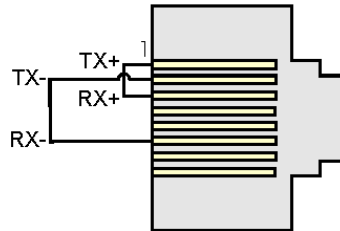

Figure 5-15. RJ-45 Ethernet Loop-back Plug
This test configures the Ethernet port's ability to transmit and receive via the twisted pair. The text transmits frames and compares them against received frames. You need a special loop-back plug (shown in Figure 5-15) to perform the Ethernet loop-back test:
1. Connect an external Ethernet loop-back plug (see *Figure 5-15*) to the Ethernet port on the CPU module to be tested.